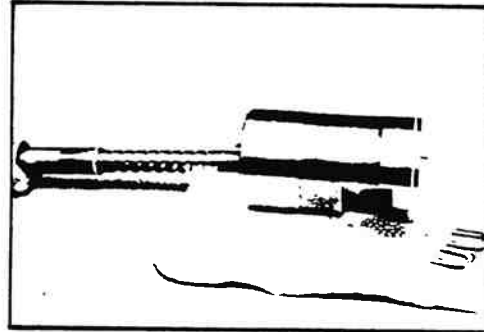

Figure 11-41. Removing Worm Gear.
38. Remove the worm shaft (5a) from the rack piston (10) (figure 11-41).